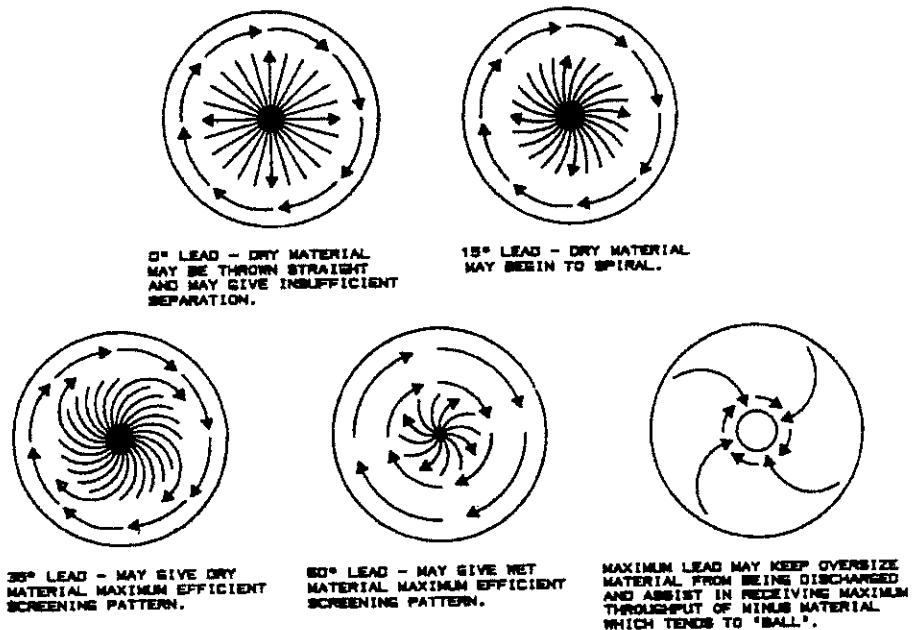

FIGURE 3
- d. Examples of average material travel patterns are shown below in Figure 3.